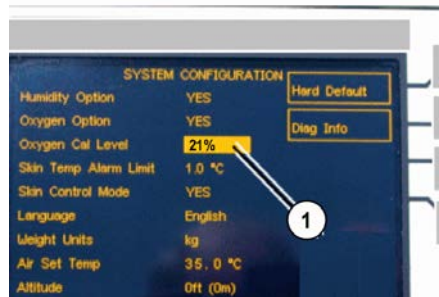

Fig. 27 Close-up view of control panel: oxygen calibration point
- 3 Check the oxygen calibration setting. Note: In Fig. 27/1 the calibration setting is "21%".